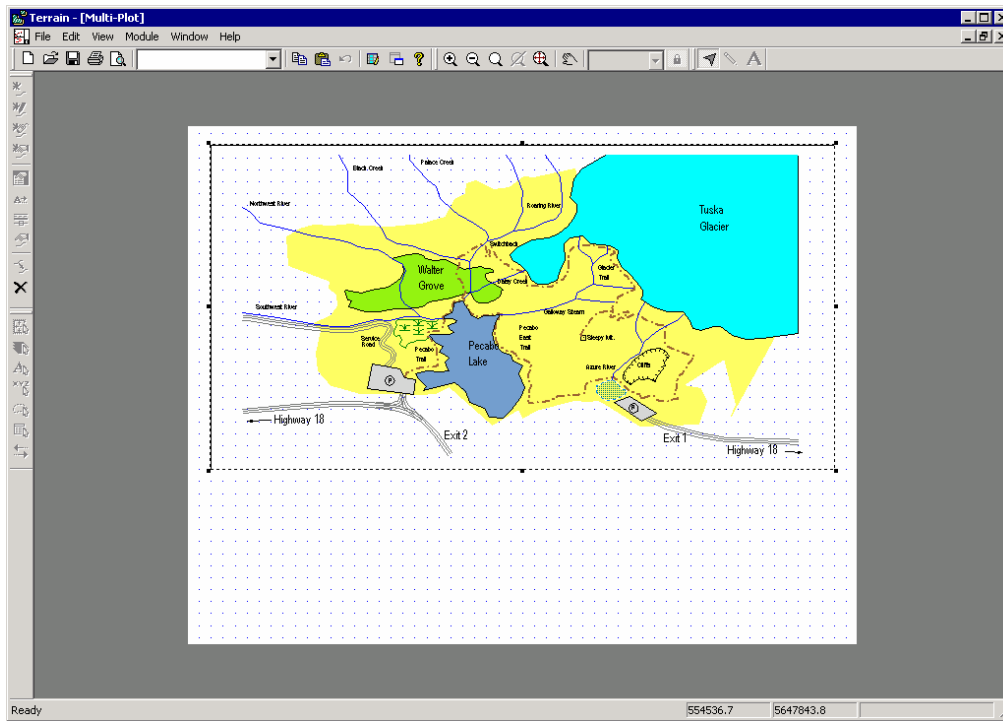

Figure 3.30: Multi-Plot Plan Sub-View of Plan1.TER
6. Resize and reposition the Plan Sub-View until it appears approximately in the top 2/3 of the output sheet (see Figure 3.30).